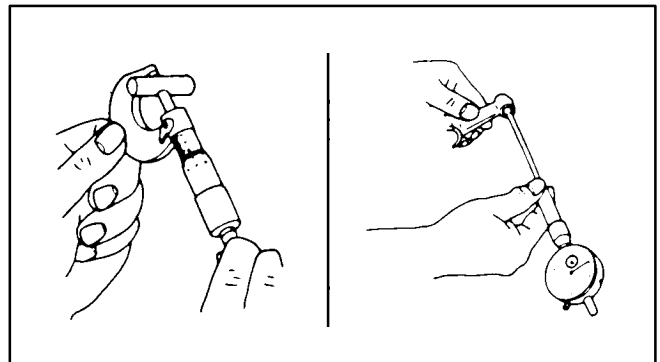

FIGURE 10-29. PISTON PIN TO CONNECTING ROD CLEARANCE
1. Measure the piston pin OD and connecting rod small end bore with a micrometer (Figure 10-29). Then calculate the difference.